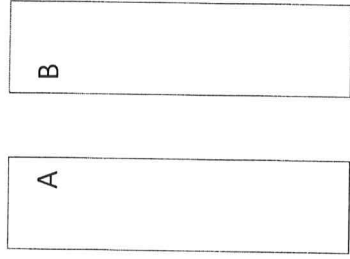
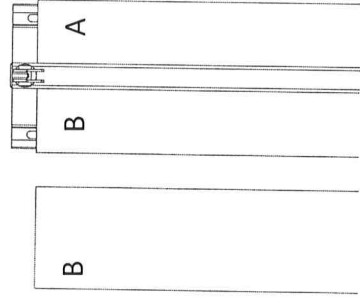
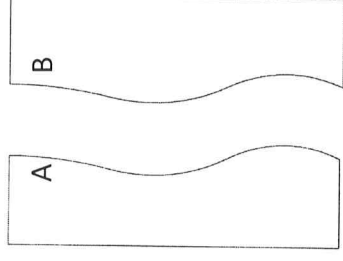

Figure 1. Label Edges.
Figure 2. Label JointABILITY.
Figure 3. Matching Joint.
The key advantage, of the JointABILITY, is its ability to match the boards of a glue joint. That is one board is cut on one side of the joint ability and the second edge is cut on the other side of the JointABILITY. To show this label the 2 edges of a glue joint 'A' and 'B'. As shown in figure. 1 below. Then label the JointABILITY sides 'A' and 'B'. Figure 2 shown the JointABILITY labeled and a board with the edge label 'B' being slid in on side 'B'. Even though we take several steps to insure the straightness of the JointABILITY, there will be some variation in the joint. By using the two sides of the JointABILITY, those variations will match as can be seen in figure 3.
- Label the 2 sides of each edge 'A' and 'B' as shown in figure 4. Remember, the 'A' edge and the 'B' edge will be cut with the corresponding side of the JointABILITY (see figure 2)..